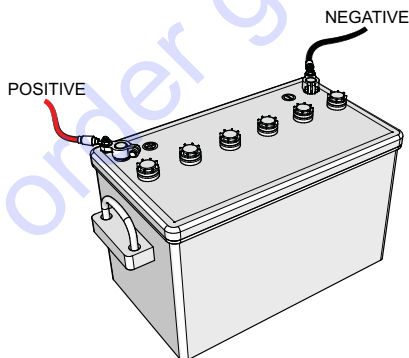

Figure 9. Battery Connections
**ALWAYS** be sure the battery cables (Figure 9) are properly connected to the battery terminals as shown below. The **red cable** is connected to the positive terminal of the battery and the **black cable** is connected to the negative terminal of the battery.